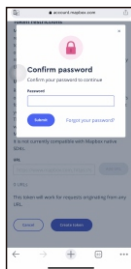

Figure5
2.6 Enter the confirmation password to complete token creation.(See Figure 5)